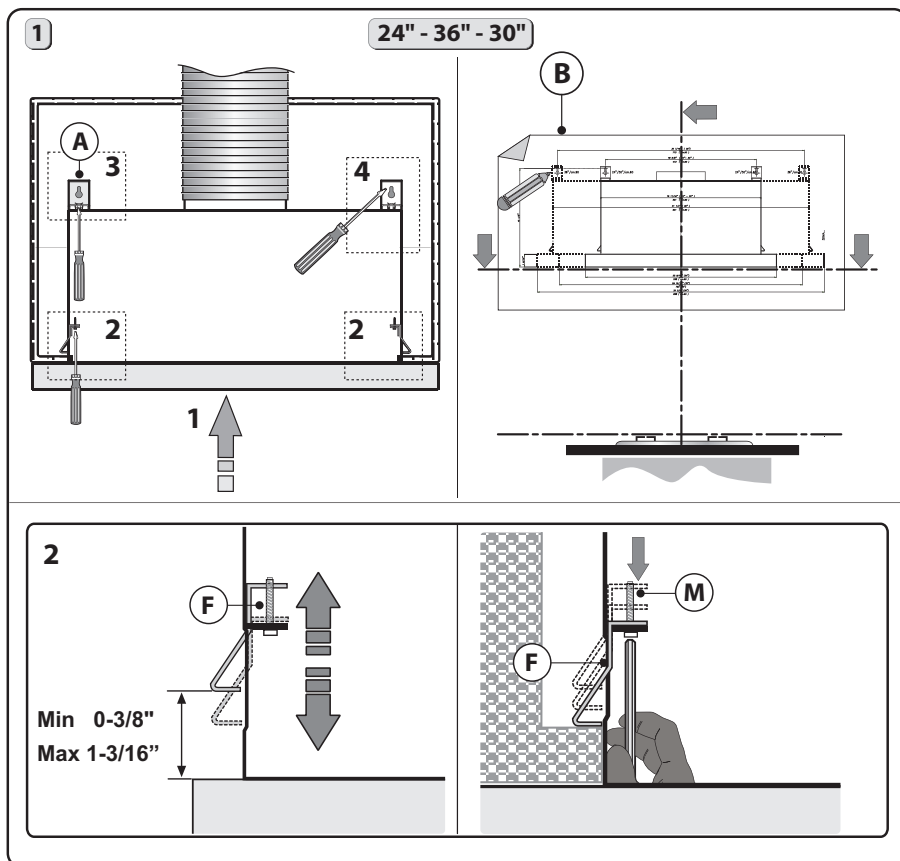

Fig.4
1. Remove pin Y from bracket A. (Pin Y can be discarded.) Then place the insert X on the slot of the bracket A, as indicated in Fig. 4 - step 3.
Match the C screws with the L washer and attach the A bracket to the cabinet as indicated in Fig. 4 - step 3.1. Do not completely tighten screws C to allow the bracket to slide back and forth.